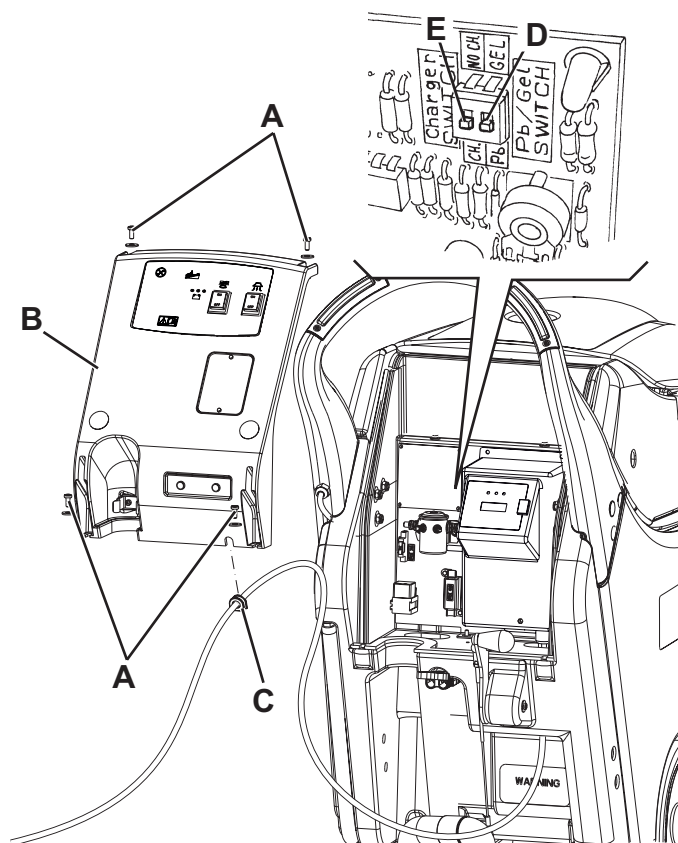

Figure 1
2. Move aside the recovery water drain hose (11).
3. Remove the battery charger cable from the cable holder (5).
4. Remove the screws (A, Fig. 1) and carefully move aside the panel (B) by disengaging the grommet (C) from its housing on the panel (B).
5. Turn the microswitch (D) to WET position.